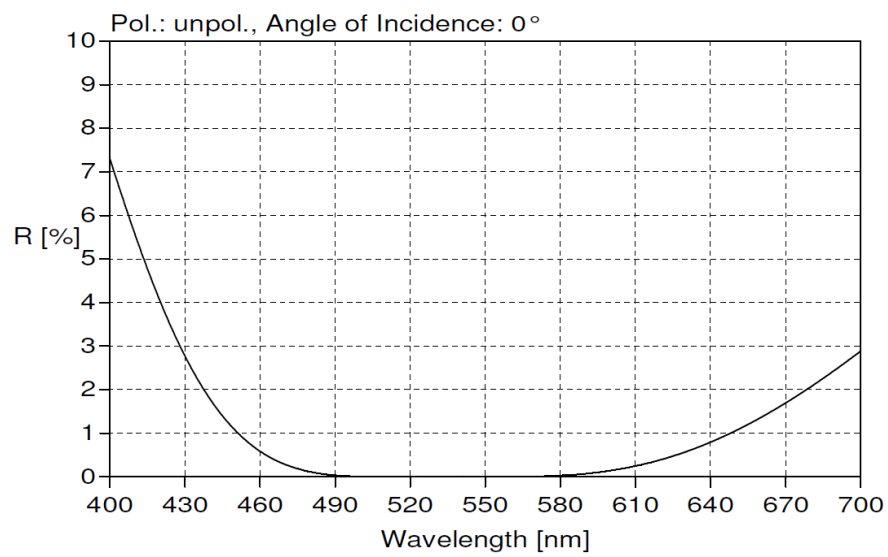

Figure 2.15: AR-coating of Sheetopectics 1108405 for 532/527 nm (VIS) wavelengths
- 1108405 made with BK7 lenses with a high power anti-reflection coating for 532nm. See figure 2.15 for a detailed performance of this coating.